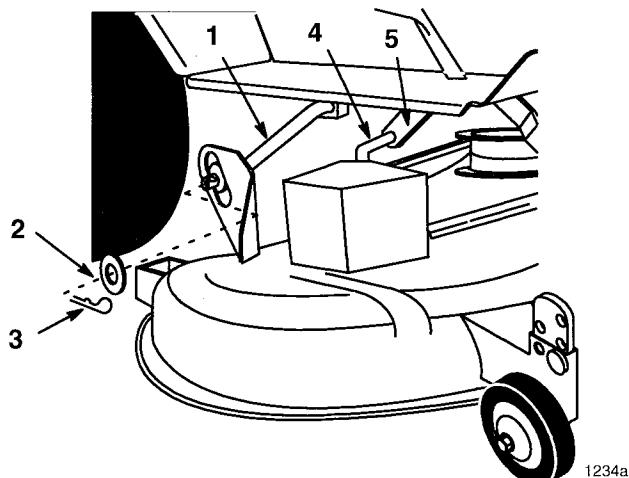

Figure 12
5. Remove hairpin cotter and washer from rear link and remove from attachment lift (Fig. 12).
6. Remove hairpin coppers and washers from rear lift arms (Fig. 12).
7. Slide deck right, off rear lift arms (Fig. 12).